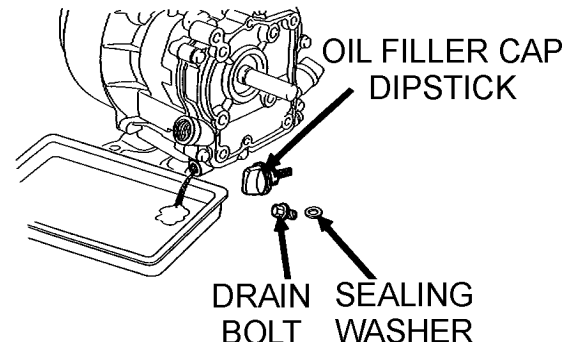

Figure 20. Draining Engine Oil
- Drain the engine oil when the oil is warm as shown in Figure 20.